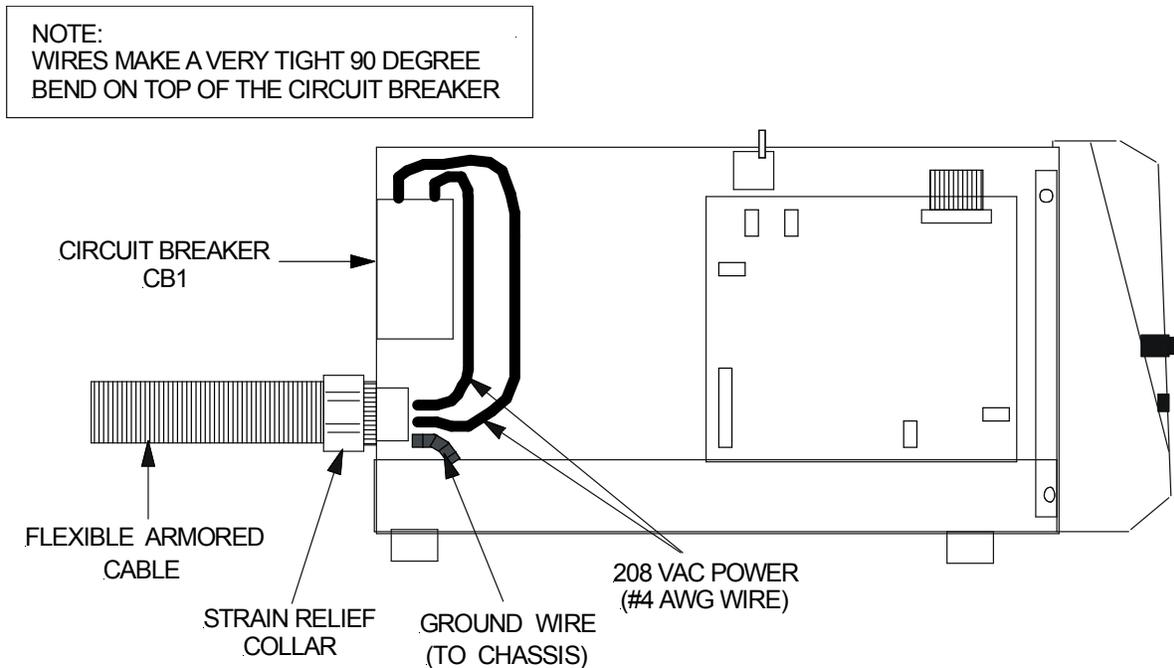

Figure 3-7: AccuThermo RTP System AC Power Connections
- Step 2. Loosen the cable strain relief collar located on the rear panel of the system. See Figure 3-7.
- Step 5. Connect the green (or green/yellow) ground wire to the ground bar on the bottom of the AccuThermo RTP chassis (Figure 3-7).